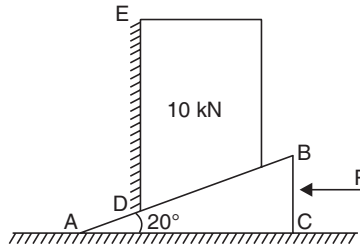

Fig. 6.44
12. A block weighing 10 kN is to be raised by means of a 20° wedge. Determine what minimum horizontal force  $P$ , should be applied to raise the block, the angles of friction at the contact surfaces  $AC$ ,  $AB$  and  $DE$  are 11°, 14° and 10° respectively. (See Fig. 6.44) [Ans. 10.77 kN]